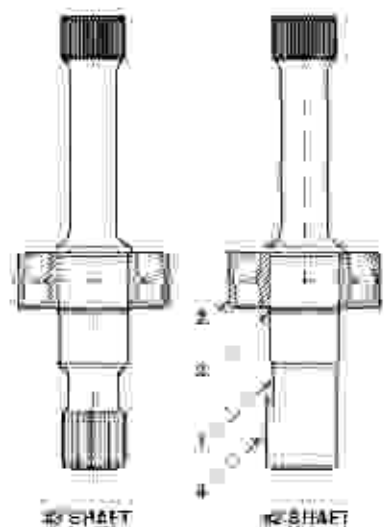

FIGURE 1
See figure 1. Remove two bolts (5) being torqued and torqued together.
• See **Figure 1**. Slide the bearing (2) over the abott end of the shaft and seat against the shoulder. Support only the inner race of the bearing and press on the long end of the shaft. **Do not use excessive force.**
• Install the retaining ring (3) in the groove. Be sure that the ring is fully seated.
PARTS LIST FOR FIGURE 1